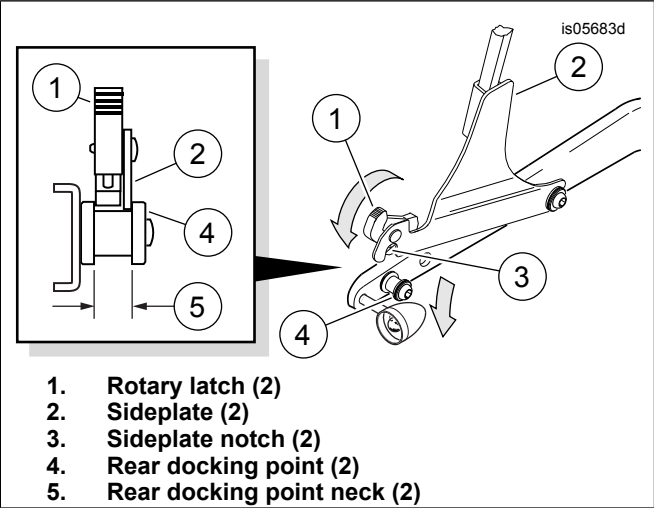

Figure 3. Lower Rear Notches Onto Rear Docking Points
2. See Figure 3. Position the rotary latches (1) over the rear docking points (4). Pull the rotary latches (1) back to their rearmost position as shown. Verify the sideplate notches (3) and latches fit into the neck (5) of the rear docking points as shown. This may require some gentle squeezing or spreading of the sideplates (2).